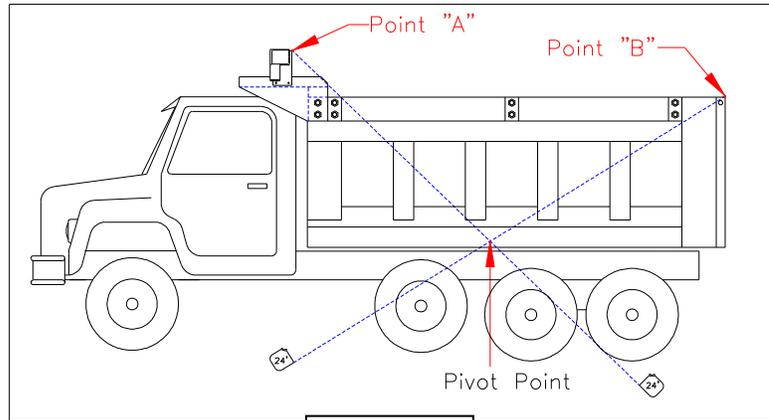

FIGURE 2
- To find the pivot point, pull one tape measure from point "A" and a separate tape measure from point "B". Next cross the tape measures at the bottom-middle of the truck body where the two measurements are equal – mark the spot beneath where they cross. This is your pivot point. (See **Figure 2**)